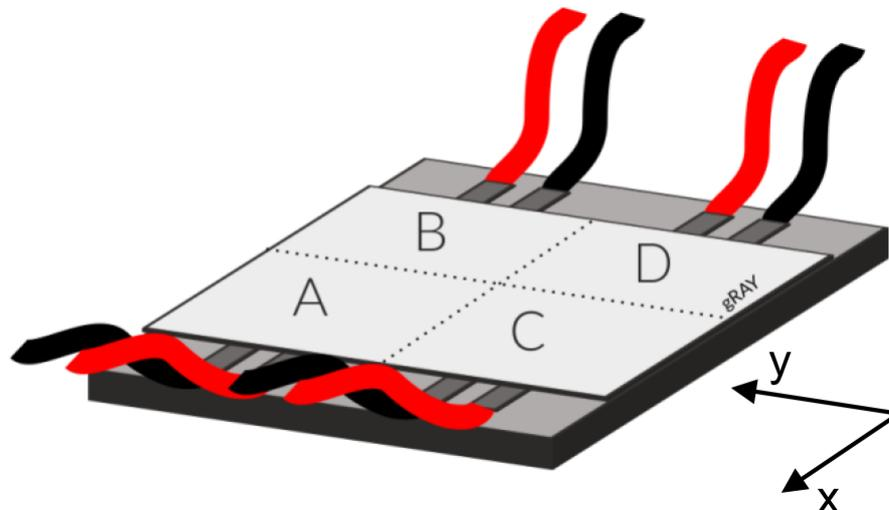

Figure 1: Thermal Position Detector Schematic
2. Connect each of the four PSD segments to different channels of your voltage read-out unit (A=channel 1; B = channel 2; C = channel 3; D = channel 4). The polarity is indicated in Figure 1, where **RED** marks the positive and **BLACK** indicates the negative pole of the respective sensor element. For instructions, refer to the section electrical connection^[9].